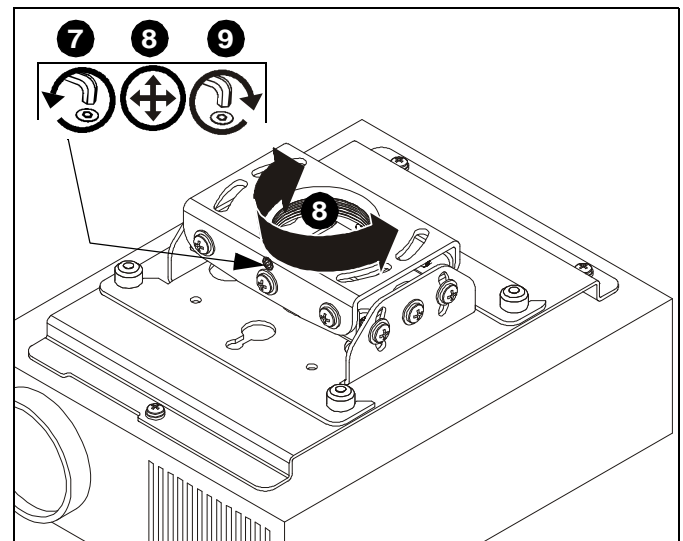

Figure 9
7. Loosen set screw. (See Figure 9)